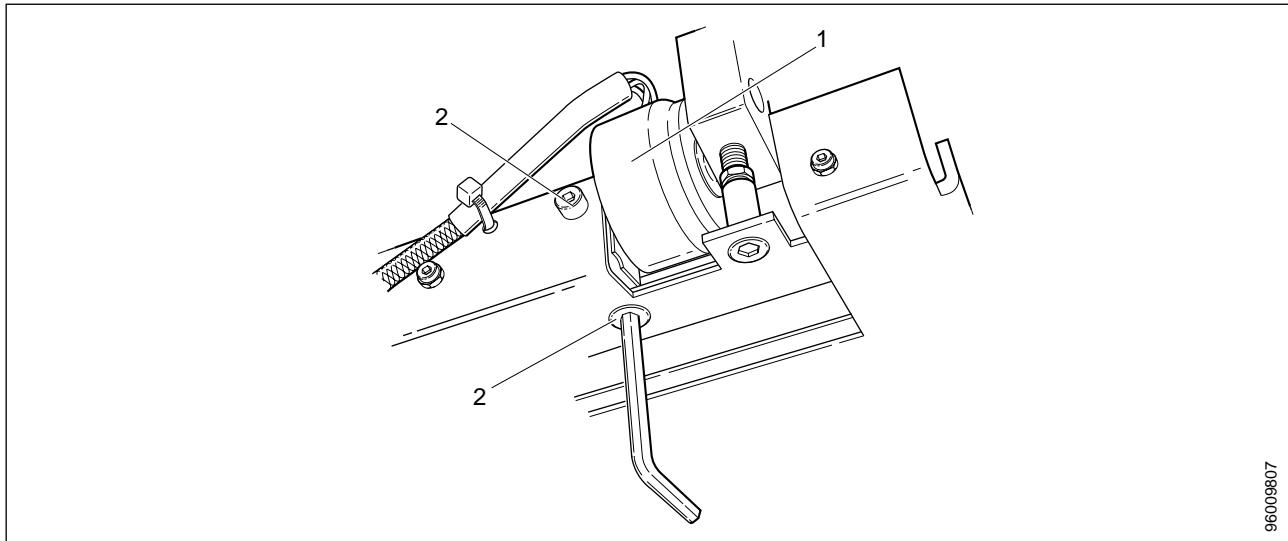

Fig. 6 Removal of electromagnet
10. Remove the electromagnet (1/Fig. 6) by unscrewing the two Allen screws (2/Fig. 6).